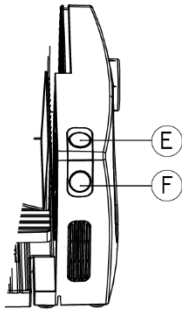

fig.7
9. Press the On/Off switch, the blade will not start to rotate until the safety switch is pressed (fig.7).